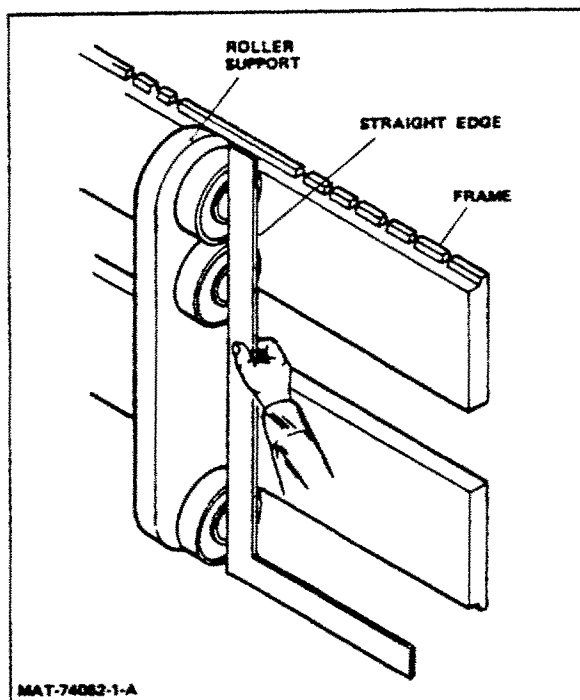

Figure 2. Checking Bearing Alignment
4. To check bearing alignment, place a straightedge against stud centerline to all three bearings on both sides of carriage assembly. No visible gap should be seen between bearings and the straightedge (Fig 2).